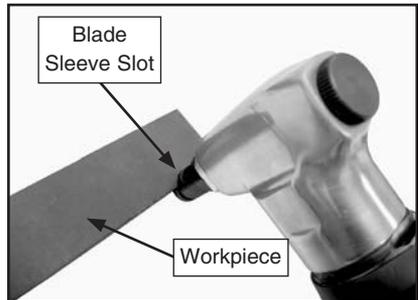

Figure 1. Workpiece inserted into the blade sleeve slot against the blade.
3. Insert the workpiece into the blade sleeve slot (see **Figure 1**) against the blade, then depress the trigger as you guide the nibbler through the workpiece.